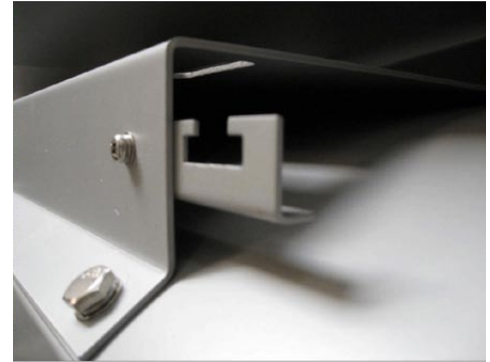

Figure 1
- JFU, JFUO and JFRO of only L type will come with pullout bars secure on mounting plate to remove casing. As per figure 1.